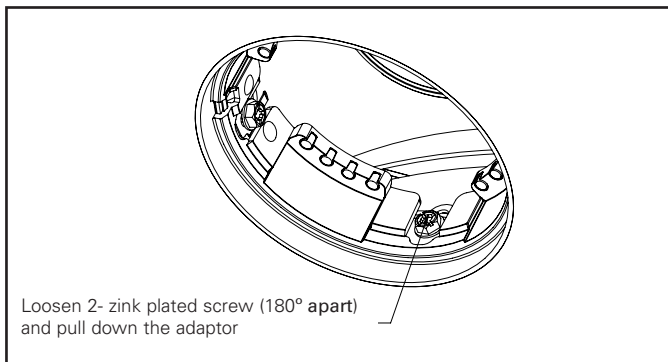

Figure 17.
4. Remove the adaptor from ceiling by loosening the 2 zinc plate hex screws (copper colour) that attach the collar to the housing (see Fig. 17). Only loosen the screw; do not remove it from the assembly.